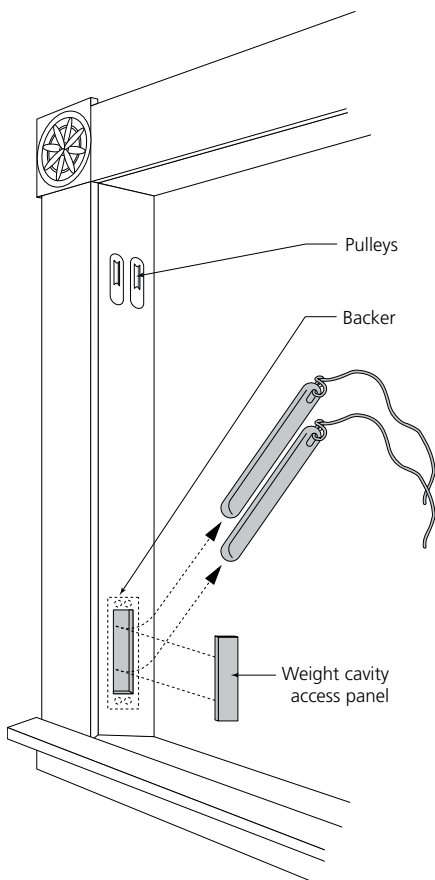

Fig 5. Remove balancing system.
2. Remove Balancing System (Figure 5)